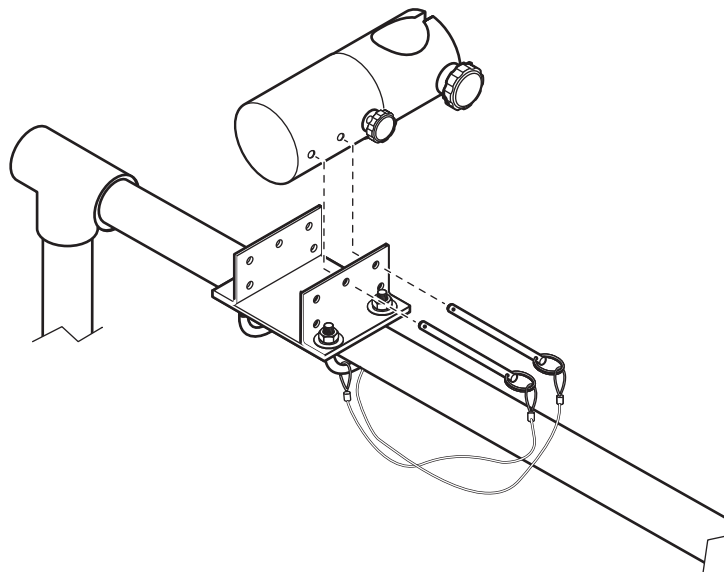

Figure 4 Installing the immersed pipe bracket
2. Fit the immersed pipe bracket (joint) to the mounting bracket using the two locking pins (Figure 4 on page 3).